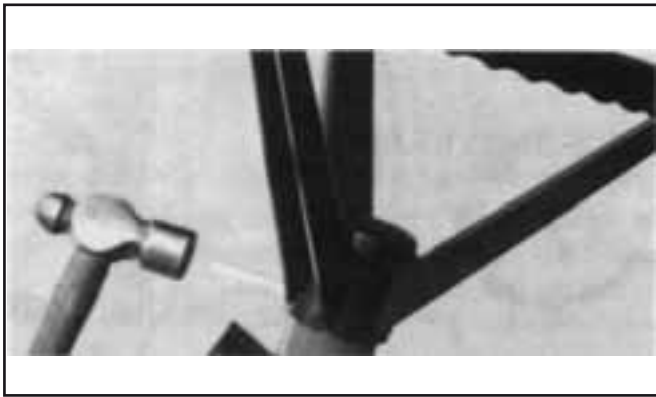

Fig. 2
2. Insert a drift punch – partially through the holes to maintain alignment and insert the roll pin in the opposite side. *Fig. 2*